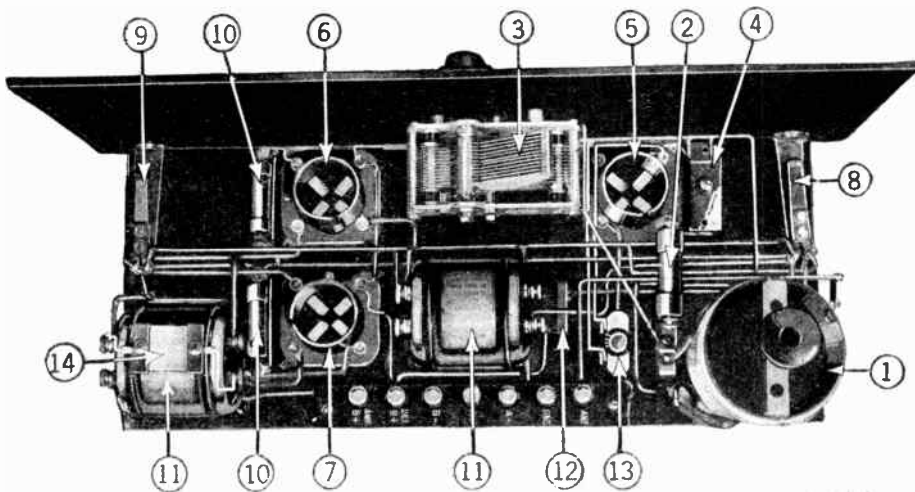

Fig. 6. View from above of the complete 3-tube set. All figures given here are identical with key figures in illustrations 4 and 8. Note simplicity of wiring.
One of the critical adjustments of the set is the carbon rheostat (13). Wire-wound rheostats are not advised by the author. This rheostat adapts almost every crystal to its tube. If the set tends to over-oscillate, that is, squeal or howl, slight adjustment of condenser (4) will bring the set to its best operation. Keep all wires away from crystal detector (2) as much as possible, an inch or more. Mount crystal detector as high as possible, as shown in Fig. 6, with wiring underneath at least an inch to an inch and a half away from the crystal detector. Another feature of this wiring diagram is that as you go along and wire two points, run a colored pencil over the black and white dash and dot lines. When all lines are thus colored your wiring is complete.